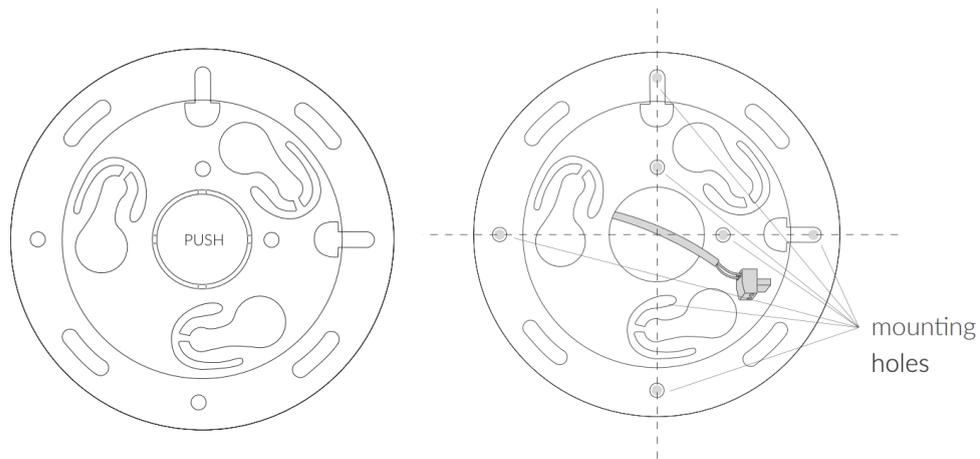

Figure 19 Install the wall-mount bracket onto the device.
- B. Install the mounting bracket on the wall using screws (see Figure 19). Screw the bracket to the wall using your preferred mounting holes.